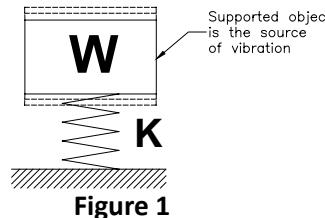

Figure 1
**1. Force excitation:** The isolator is used to protect the supporting structure from forces generated by the supported mass (see Figure 1). An example is the use of motor mounts in an automobile.